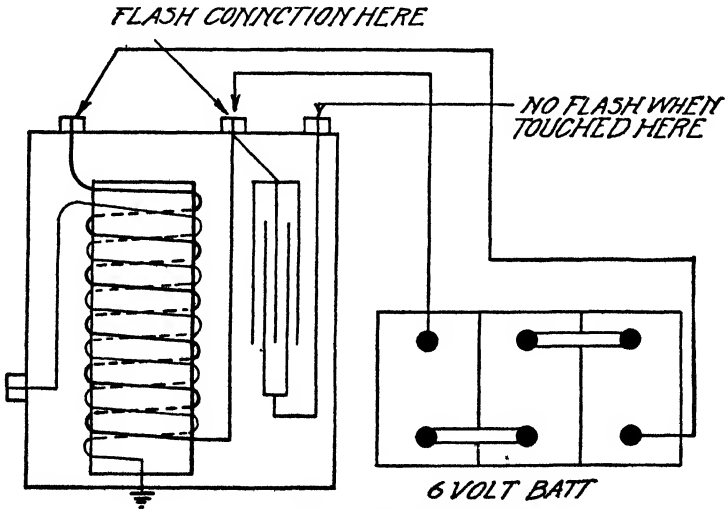

Fig. 43-c. Finding Primary Winding in Coil
*To locate primary windings in any of these coils:* Attach a piece of wire to each of the battery terminals, as shown in Fig. 43-c, and touch one primary terminal on the coil with one wire attached to the battery; with the other battery wire make a flash connection to the other primary terminals on the coil. When a short flashing spark is obtained, the ends of the primary winding have been found. This will account for two of the primary terminals.